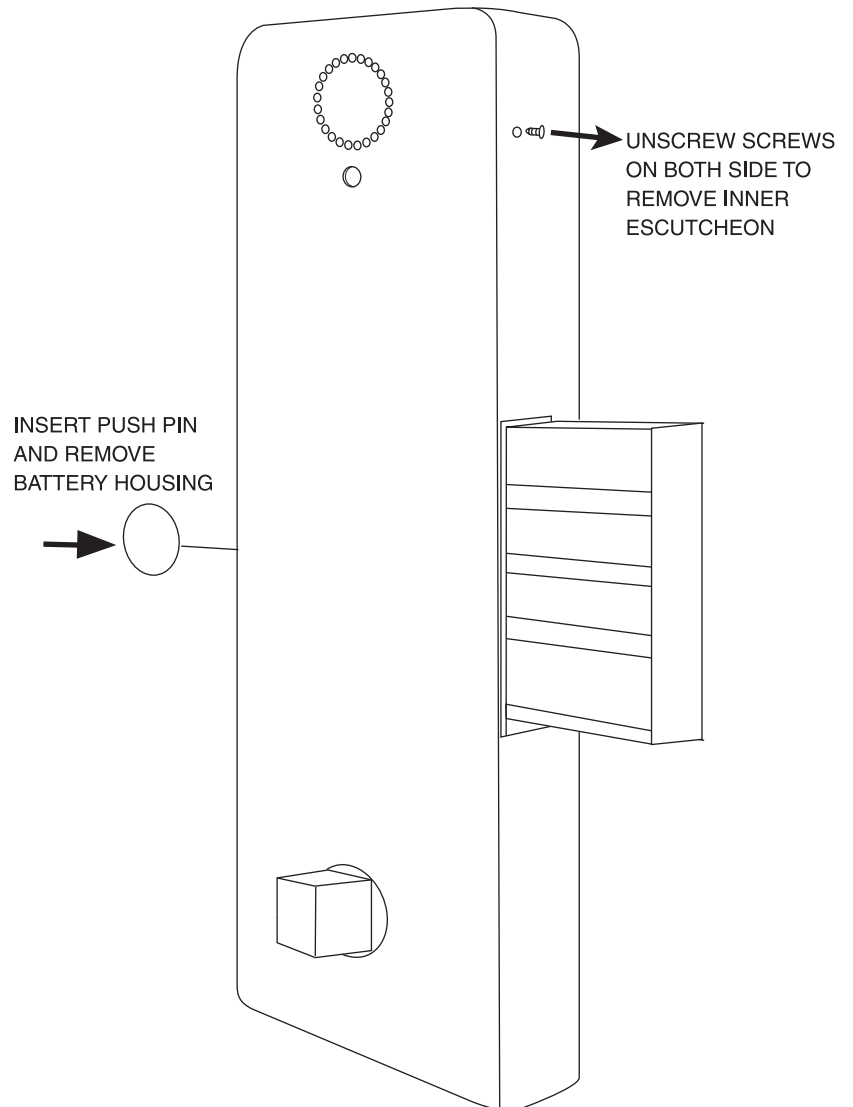

Figure 10
- Insert Push Pin into pinhole on left side of Inner Escutcheon then depress to release and remove Battery Housing (Figure 10).